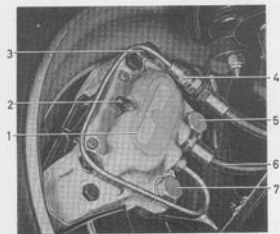

Fig. 5-20. Front wheel brake unit fitted
4. Screw out the attaching bolts (5 and 7, Fig. 5-20) and remove the brake caliper.